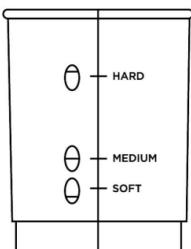

Figure 1
3. Fill the measuring cup (Figure 1) to the appropriate line. For best results, use distilled water-tap water contains minerals that can cause eggs to discolor.